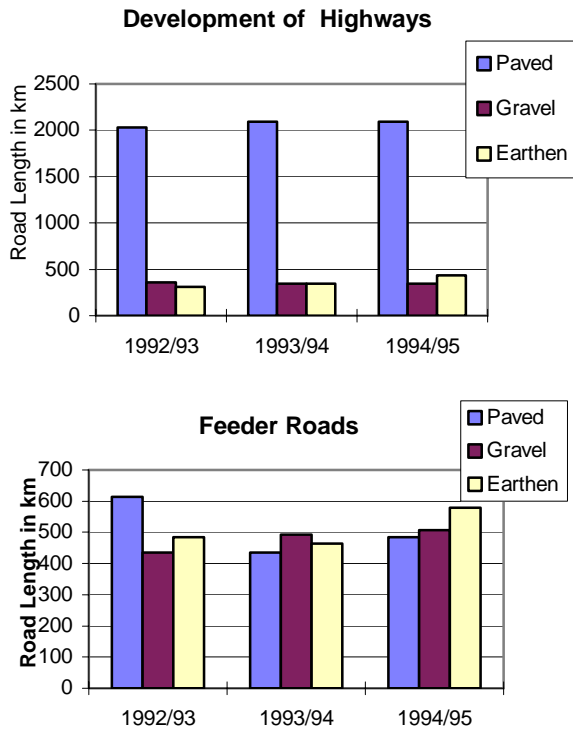

Fig. 1
**T**he status of the strategic Road Network (bituminous, gravel and earthen) comprising National Highways and feeder roads over the initial three year period of the Eighth 5 year plan is shown in Fig. 1. Under the government policy of providing access to each District Headquarters, at present, out of 75 District Headquarters 54 are already connected to the road network. There are at present 15 Highways and 51 Feeder roads completed with the total length of some 4400 km. Over 900 km of roads under Strategic Network is still to be constructed in order to establish the basic primary network within the country. The charts (Fig. 2) show the condition of the National Highways and Feeder Roads over the last two years. An assessment of the condition of the Strategic Network carried out in Fiscal Year 1993/94 and 1994/95, based on the visual surface condition rating,